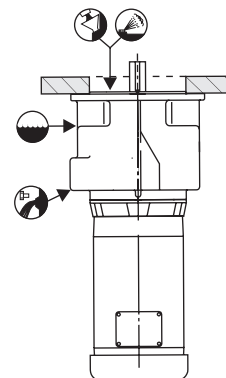

Figure 1
**MOUNTING** (Figure 1, Page 2) — Sizes 201 thru 207 are furnished filled with oil to the approximate level determined by the mounting position ordered. Sizes 208 thru 14 are furnished without oil. Refer to Table 3, Page 4 for a list of typical lubricants meeting Rexnord specifications. Fill drives to the oil level plug. Refer to Table 4, Page 5 for the approximate quantities of oil by the drive mounting position. Refer to Figure 1, Page 2 for the placement of the vent, drain and oil level plugs based on the drive mounting position.